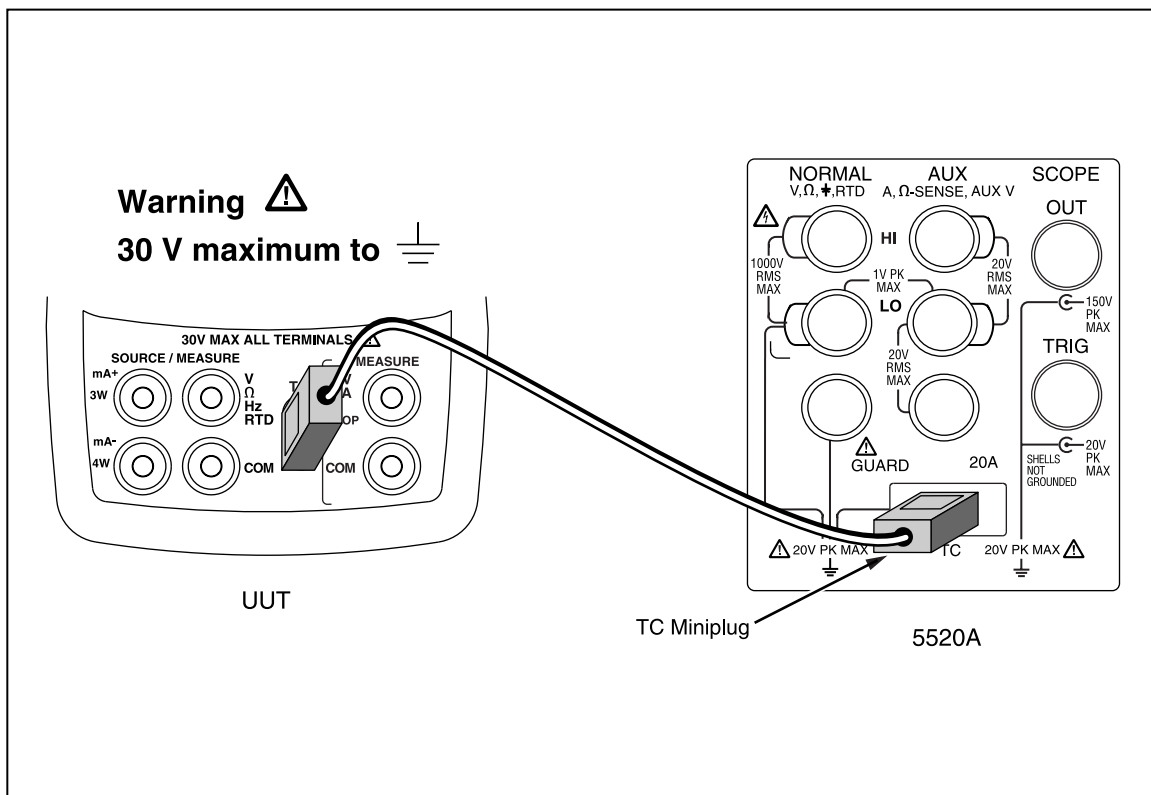

Figure 10. Lower Display Thermocouple Test Connections
1. Remove the test leads from the UUT terminals; then connect a type J thermocouple lead between the TC jack on the UUT and the TC jack on the 5520A as shown in Figure 10.